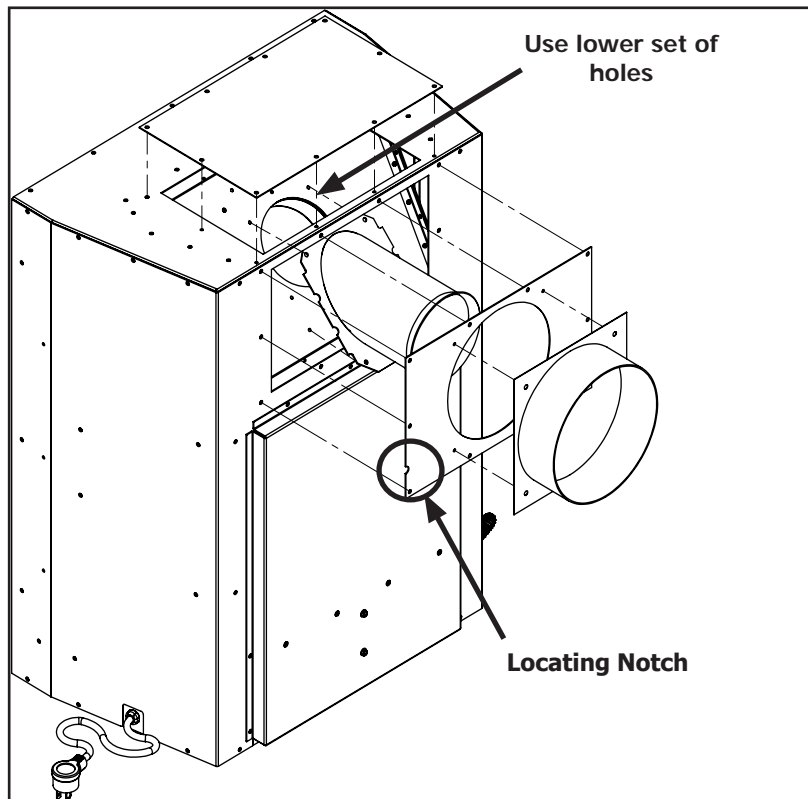

Figure 18. Vent Conversion - Step 2
Step 2: Switch the removed parts around as shown in Figure 18 and re-install all 28 screws. To correctly install the base plate keep the locating notch on each side at the bottom. Also note the exhaust spigot uses a lower set of holes when setup as a rear vent.